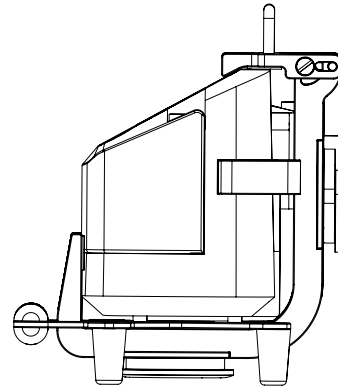

Figure 7: Closing and locking the support bracket
- Flip the top of the support bracket over the medical device and press it until it is locked and secured (Figure 7).